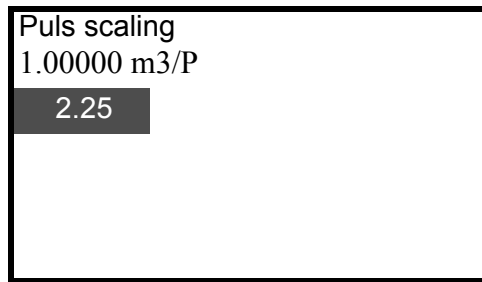

Figure 26 Setting the pulse weight
2. A display to input a value for the pulse weight then appears. (Figure 26) Enter a 7-digit number including the decimal point. Once a value has been inputted, press F4